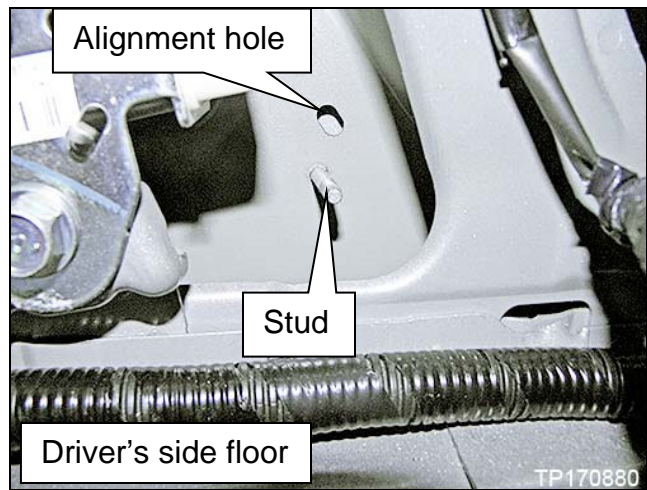

Figure 67
58. Slide the satellite sensor onto its stud and align with the alignment hole (see Figures 67 and 68).